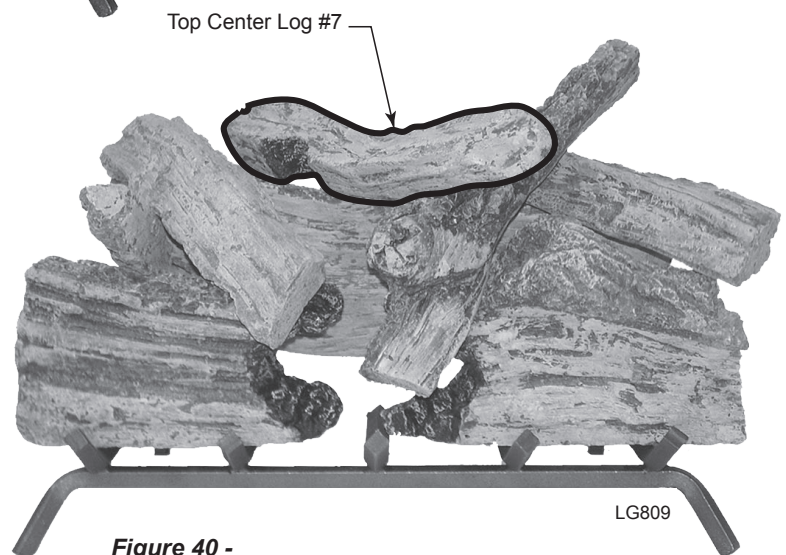

Figure 40 -
8. Lay Top Center Log #7 across log #3 with front end resting on Log #5. *Figure 40*